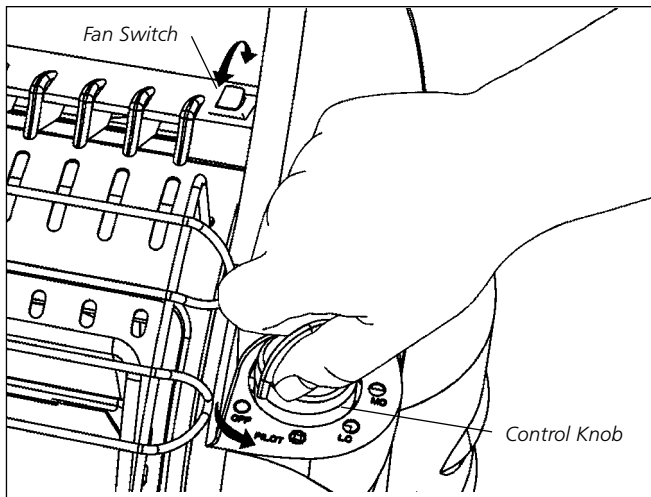

Figure 1
- Make sure five-position Control Knob is in "OFF" position; see Figure 1.
- For added heat circulation turn red fan switch to on. The fan switch is located just left of control knob side handel support. See Figure 1.
- Make sure five-position Control Knob is in "OFF" position; see Figure 1, at left.